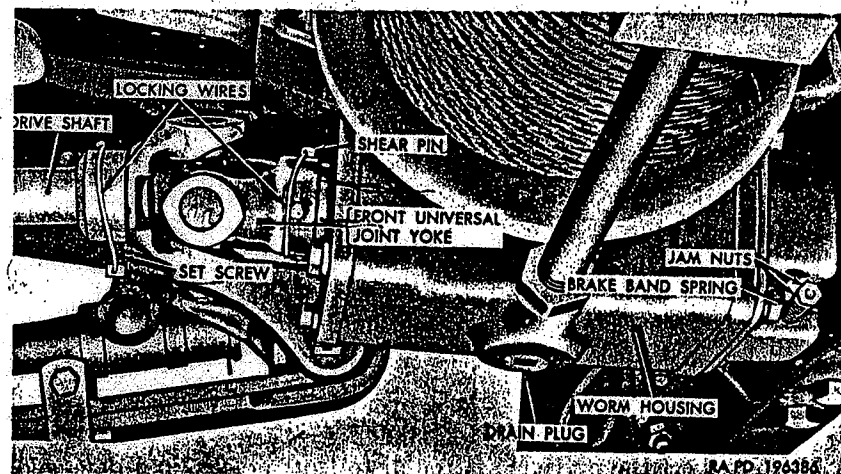

Figure 153. Winch—bottom view.
- (1) If the drive shaft is equipped with a collar, remove the locking wire from the collar setscrew at rear universal joint, loosen the setscrew, and slide the collar forward.
- (2) Remove the locking wire (fig. 153) from the drive shaft shearpin (fig. 153) and remove the shearpin.
- (3) Slide the front universal joint yoke (fig. 153) toward the rear far enough to clear the wormshaft.
- (1) Remove the outer jamnut (fig. 153) from the brake band end.
- (2) Insert a long punch through the shearpin hole in the wormshaft. Oscillate the shaft with the punch and at the same time tighten the inner jamnut on the brake band end until a
- (1) Remove the punch from the shearpin hole in the wormshaft and position the universal joint front yoke on the wormshaft, aligning the shearpin holes. Install the shearpin and secure with locking wire (fig. 153).
- (2) If the drive shaft is equipped with a collar, position the collar to provide  $\frac{5}{8}$ -inch clearance between the collar and the
- (2) Remove the locking wire from the shearpin (fig. 153) and remove the shearpin. Push the shaft and assembled parts to the rear, and remove the front universal joint yoke (fig. 153) from the wormshaft.
- (3) Remove the 10 bolts and lockwashers that secure the winch brackets to the frame side rails and front bumpers, and raise the left side of the winch sufficiently to permit removal of the drive shaft.
- (4) Pull the shaft forward to disengage the splined end of the shaft from the front yoke of the rear universal joint, and remove the shaft. Remove the collar (if so equipped) as the shaft is removed.
- (5) Remove the locking wire from the setscrew in the rear universal joint yoke, loosen the setscrew, and remove the universal joint from the power-take-off. Remove the woodruff key from the power-take-off shaft. Remove the front universal joint from the drive shaft in the same manner.
- (1) Install a No. 817 or 127 woodruff key in the keyway at the front end of the drive shaft. Install the rear yoke of the front universal joint on the shaft, aligning the keyway in the yoke with the key. Install the setscrew, tighten, and secure with locking wire (fig. 153).
- (2) Install the rear universal joint on the power-takeoff drive shaft in the manner described in c(1) above.
- (3) Apply a light coating of automotive and artillery grease to the splines of the drive shaft. With the winch raised as in a(3) above, insert the splined end of the shaft through the opening in the frame reinforcement from the front. Install the collar on the shaft (if so equipped), and insert the shaft in the front yoke of the rear universal joint, aligning the journals of both universal joints. Push the shaft and assembled parts toward the rear.
- (4) Lower the winch into position and align the front universal joint front yoke with the wormshaft. Install the yoke on the wormshaft, aligning the shearpin holes. Install the shearpin and secure with locking wire.
- (5) Install all the six 1/2-inch lockwashers and 1/2-20NF x 1 3/8 bolts for the winch frame brackets and four 1/2-inch lockwashers and 1/2-20NF x 1 bolts for the bumper brackets. Tighten the bolts evenly.
- (6) If the drive shaft is equipped with a collar, position the collar to provide 5/8-inch clearance between the collar and the front end of the universal joint yoke, tighten the collar setscrew, and secure with locking wire.